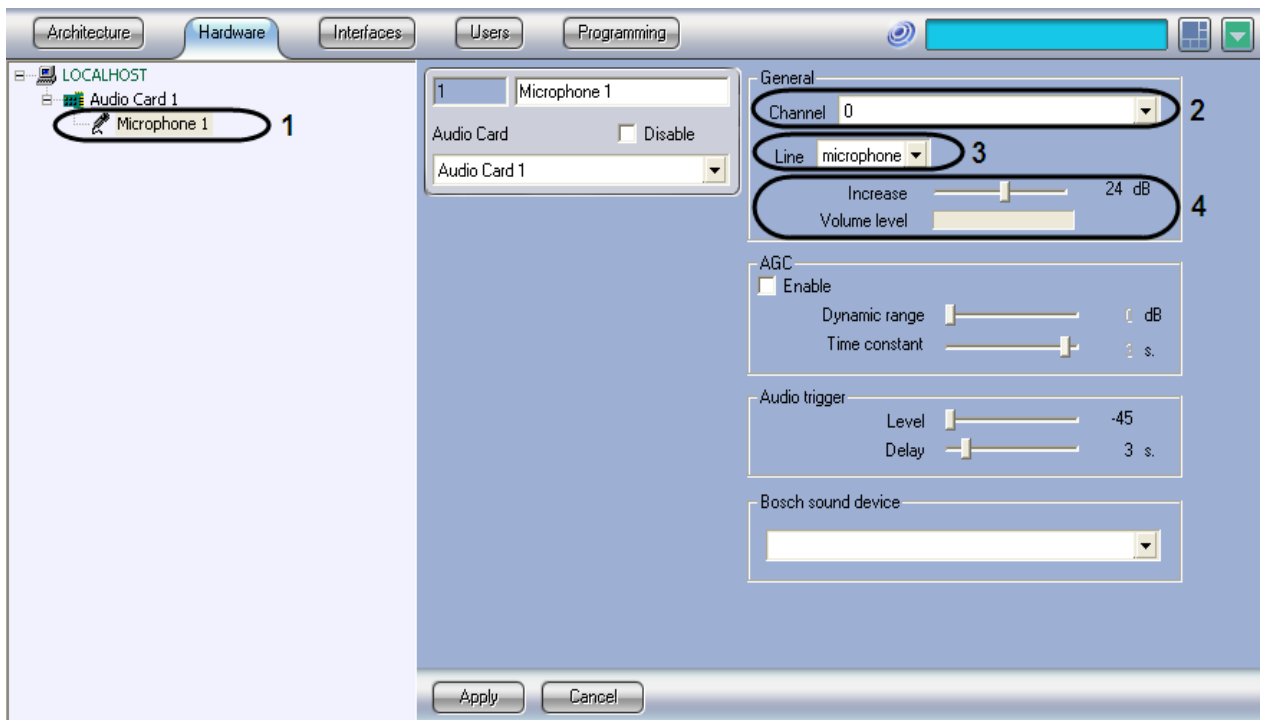

Figure 3.1-17 Configuring the Microphone object
3. Select the created **Microphone** object in the object tree (Figure 3.1-17, 1).
- 4.2. In the **Channel** list (Figure 3.1-17, 2) select the channel to which the audio device is connected (see *Features of audio subsystem configuration* section).
- 4.3. In the **Line** list (Figure 3.1-17, 3) select the device type (microphone, by default).
- 4.4. Configure the level of sound volume using the **Increase** slider. Sound availability in the specific microphone and the increase value are in the **Volume level** graphic scale (Figure 3.1-17, 4).